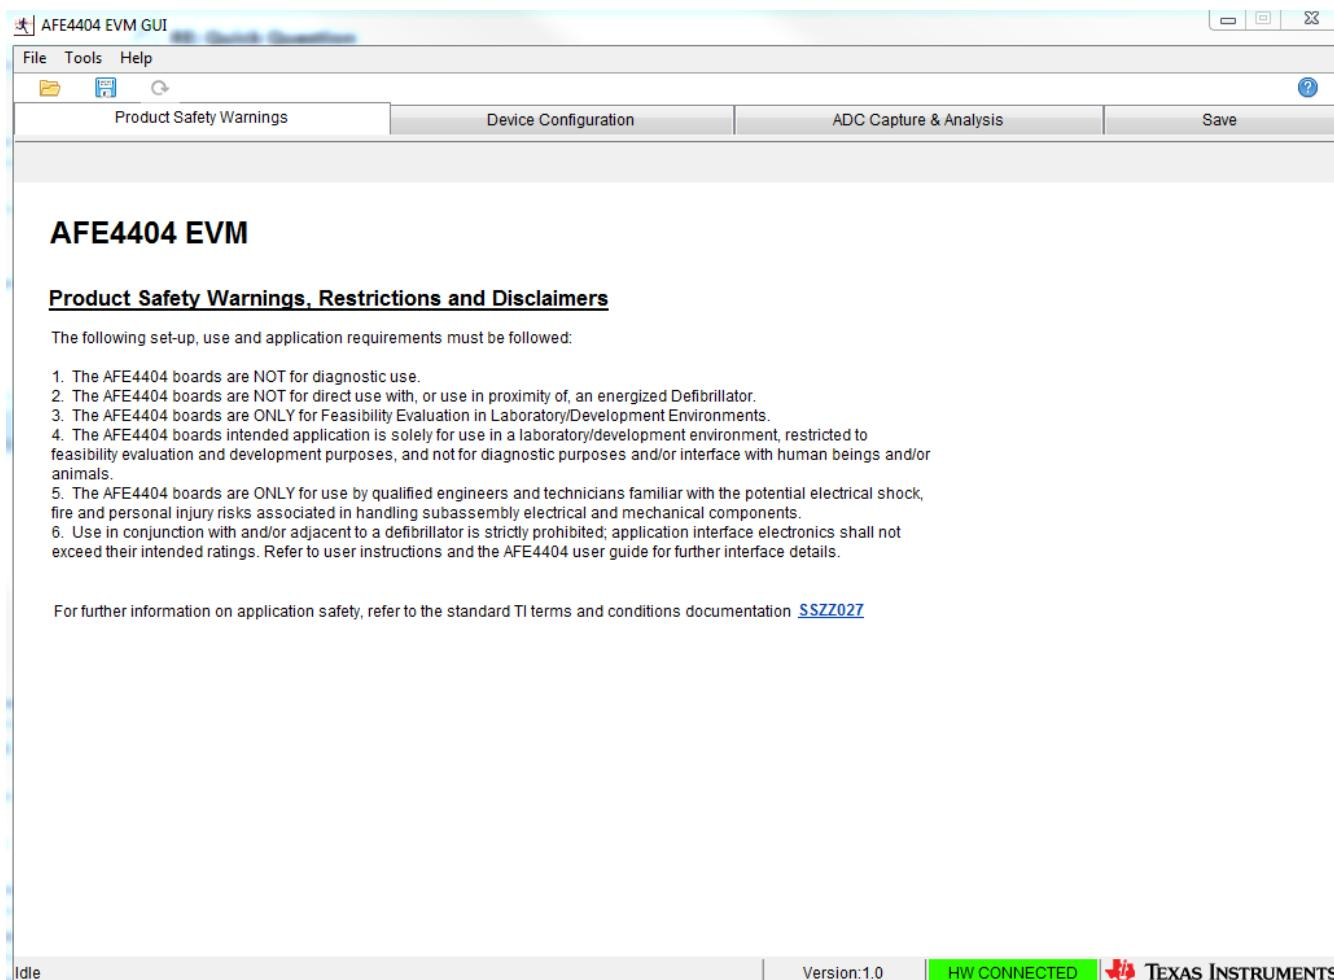

Figure 29. Product Safety Warnings, Restrictions, and Disclaimers
- *Product Safety Warnings* – Product Safety Warnings, Restrictions and Disclaimers (see Figure 29).